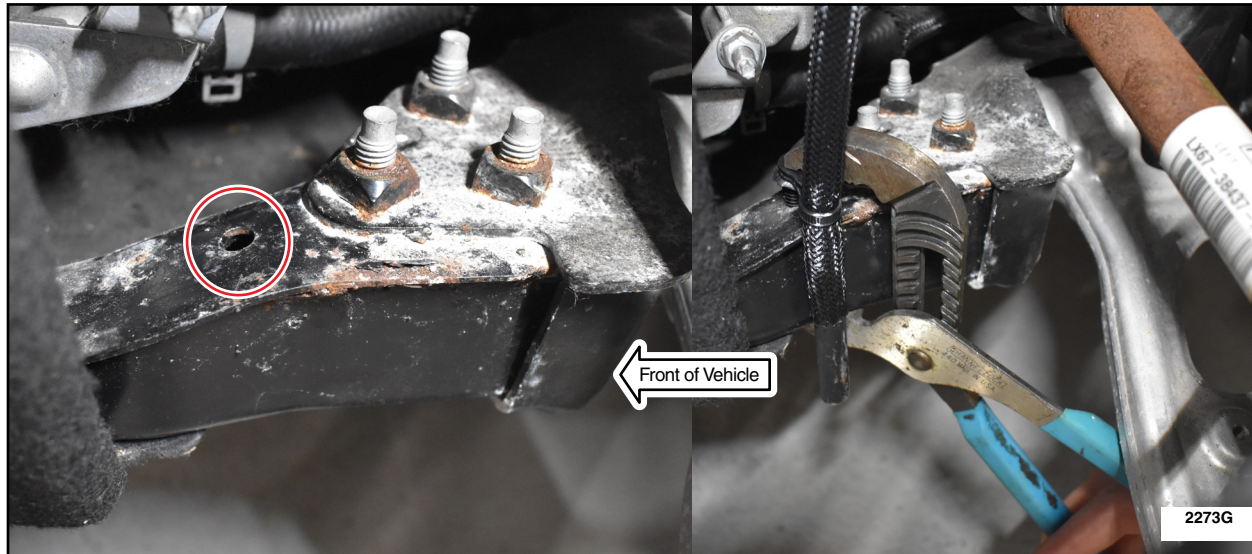

FIGURE 7
10. Attach hose to subframe. Position fir tree fastener and push in as far as possible. If needed you can use groove joint pliers to secure fir tree fastener fully into the hole in the subframe. See Figure 7. Continue to Step 15.